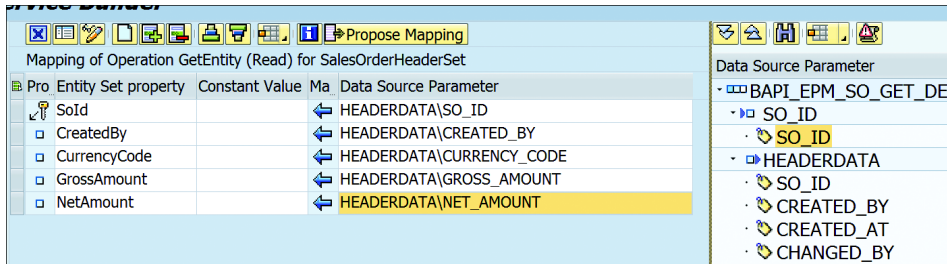

Figure 19.121 Create Proposal
- Click the PROPOSE MAPPING button to create a proposal automatically, as shown in Figure 19.121. However, this RFC has an `import` parameter that should be supplied with the document number. To map the input field, next you'll create a new field in the entity manually and then map it to the `import` parameter of the function module.